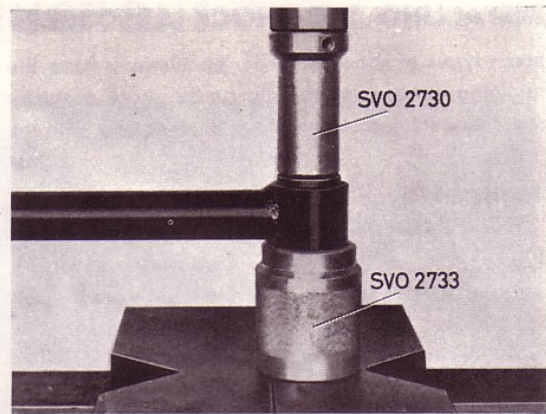
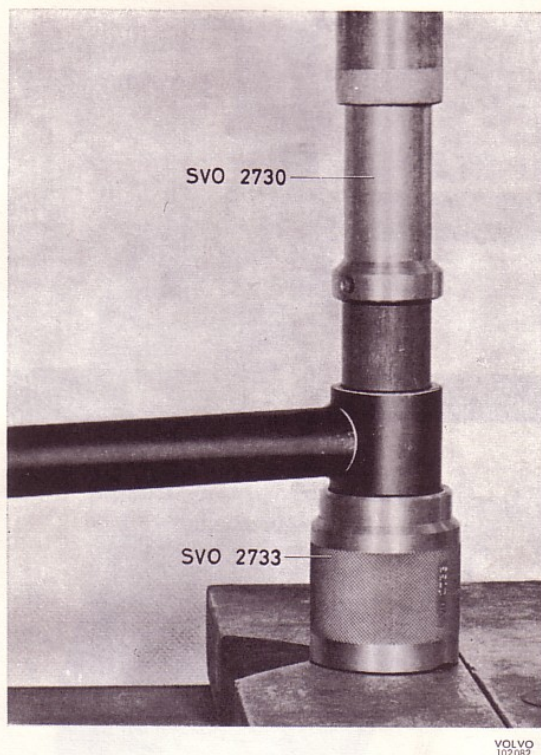
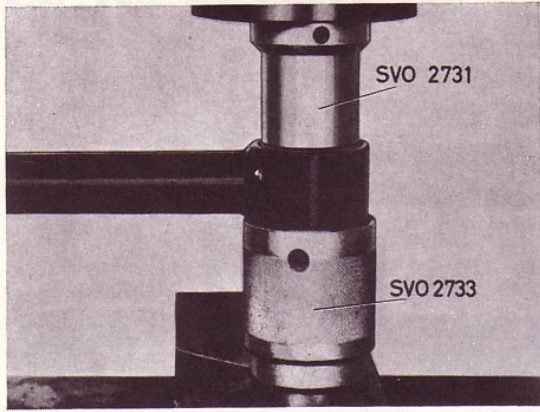
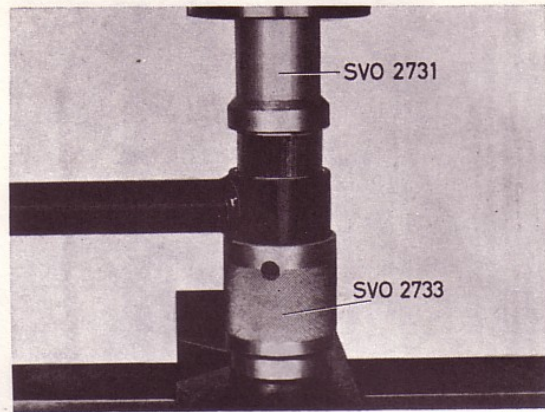

Fig. 15.
Fig. 16.
Fig. 19.
Fig. 20.
4. Press out the bush with the narrow end of tool SVO 2730 (see Fig. 15).
5. Press in the bush with the broad end of the same tool (see Fig. 16).
4. Press out the front bush with drift SVO 2730 and with SVO 2733 as a counterhold (see Fig. 15).
5. Press in the bush with the same tools, see Fig. 16.
The front bush is pressed in and out with drift SVO 2730 and counterhold SVO 2733, see Figs. 15 and 16.
There are two types of support rod bushes (see Figs. 15 and 17). The earlier type with the plated, cylindrical rubber bush, is pressed out with tool SVO 2730, using SVO 2733 as a counterhold (see Fig. 15). These bushes are pressed in with the same tools, see Fig. 16.
On the right side which has the small bush, use tool SVO 2730 to press out the bush and SVO 2733 as a counterhold (see Fig. 15). Pressing in is done with the same tools, see Fig. 16. On the left side, use tool SVO 2731 to press out with and SVO 2733 as a counterhold (see Fig. 19). Pressing in is done with the same tools, see Fig. 20.